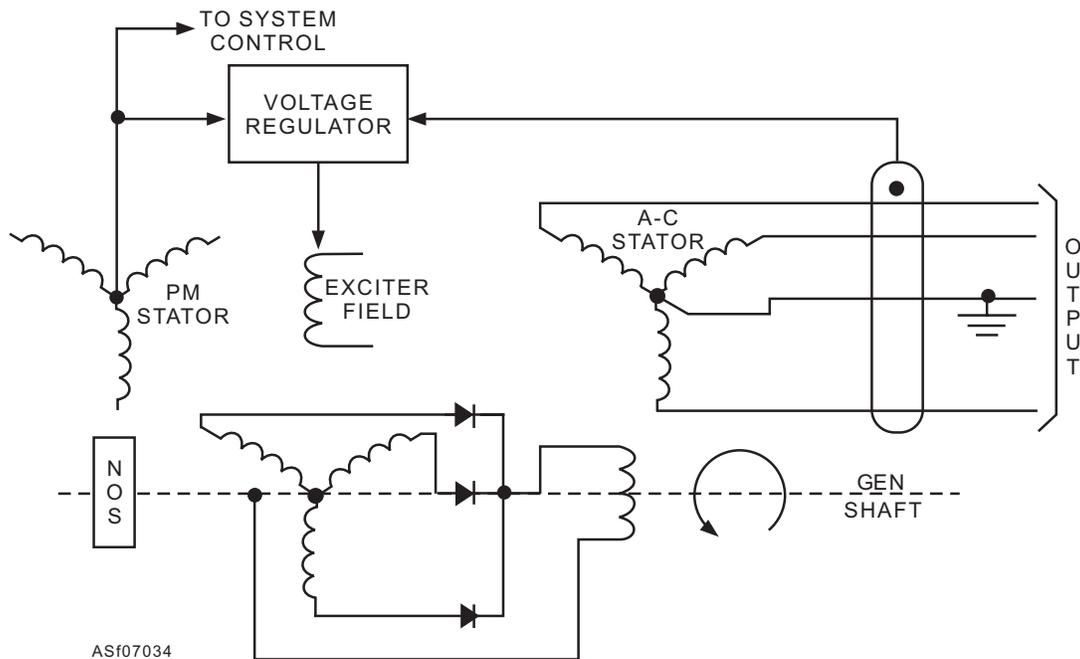

Figure 7-34.—Diagram of a brushless ac generator excitation system.
**Brushless Generator Theory.**—A brushless generator is shown in schematic form in figure 7-34. It consists of three main sections: the permanent magnet generator (PMG), the exciter-and-rectifier assembly, and the main ac generator. Each of these sections has rotating and stationary parts. The only connections between the rotating and stationary parts are working air gaps in each of the three sections (no brushes).